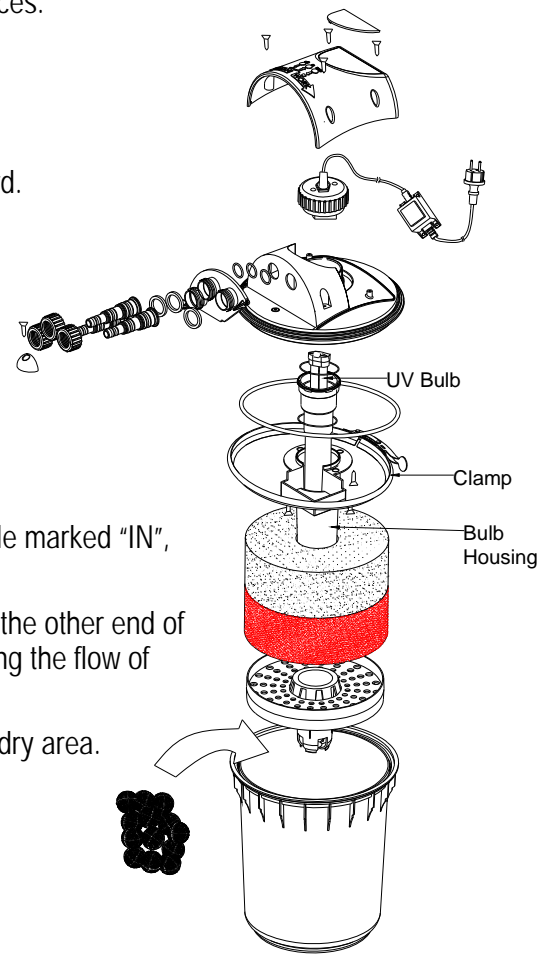

Figure 1
3. Remove the clamps and disassemble the filter (Fig.1).
2. Let the light cool, and then disassemble the filter as shown in Fig. 1.